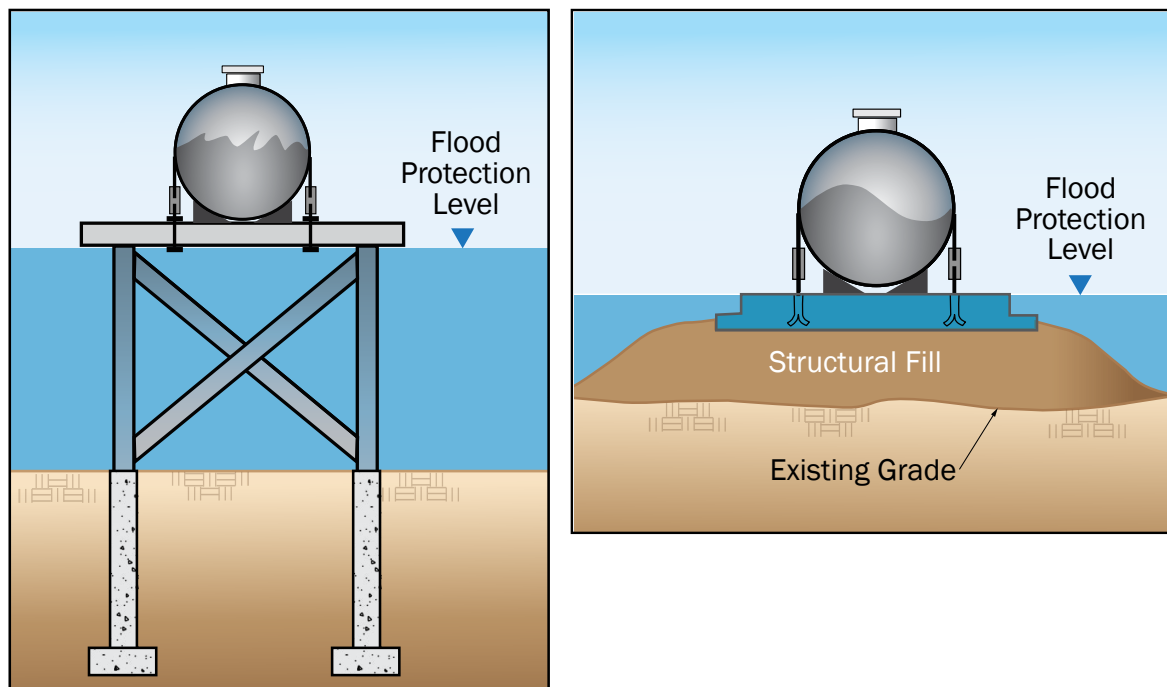

Figure 4.2.3. Raise tanks above the 500-year flood elevation and secure them with non-corrosive hardware to keep them from floating.
- Anchor tanks to platforms using non-corrosive strapping (Figure 4.2.3).